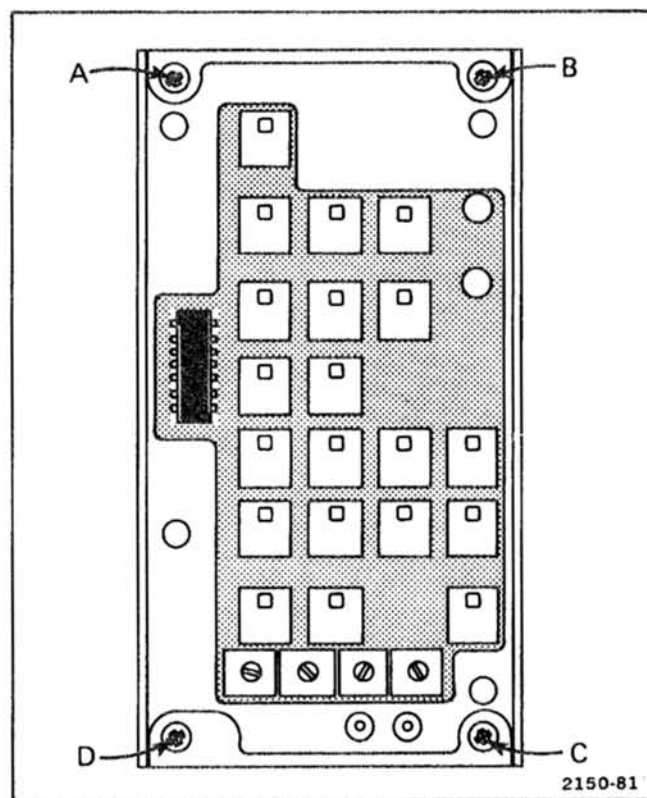

Figure 4-5. Locations of securing screws on the front sub-panel.
3. Remove 4 screws (A, B, C, and D on Fig. 4-5) from front sub-panel assembly.